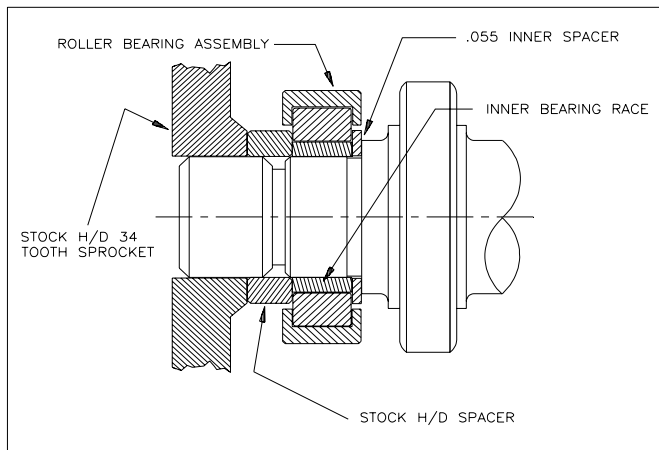

Figure 1
10. Fitting new 34T sprockets: Three shims and one "O" ring are supplied in each Andrews 34 tooth sprocket kit. The three shims are; .005", .010" and .020". Andrews 34 tooth sprockets are machined to approximately .690 length. After a trial assembly, alignment of crankshaft sprocket and cam sprocket must be checked and adjusted with shims if necessary. See factory manual for proper procedure. Make sure all timing marks are aligned before proceeding! (See figures 1 and 2, next page).
Figure 1 applies to engines with stock H/D 34 tooth drive sprockets and stock H/D spacers.